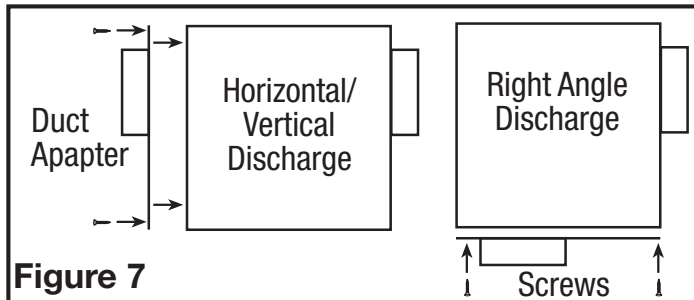

Figure 7
- Determine if you will require the unit to exhaust vertically/horizontally or at a right angle and install the optional IA418RE duct adapter panel (not included) accordingly, using the included screws (Figure 7).